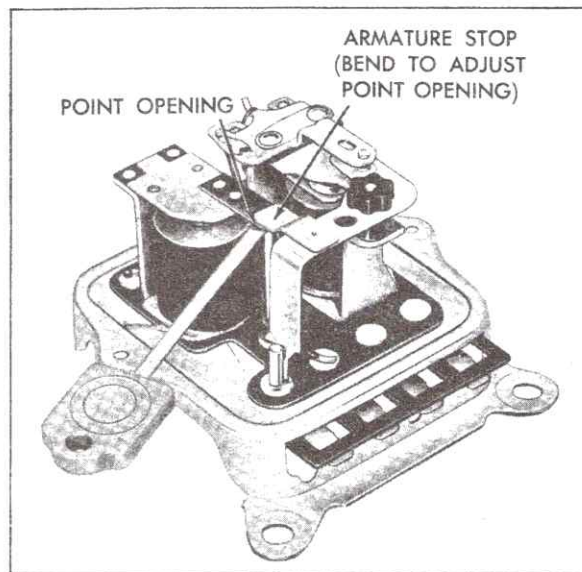

Fig. 6-47 Checking Field Relay Point Opening
1. With relay contact support spring resting against armature stop, insert a .030 inch feeler gage between contact points, and adjust by bending armature stop, Fig. 6-47.